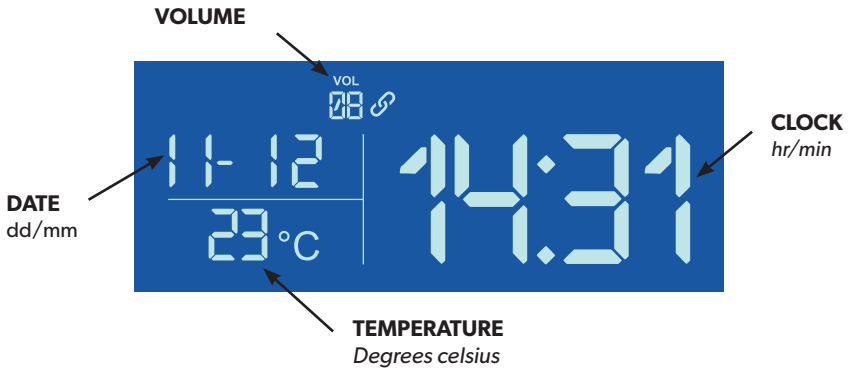

Fig 4. - Bluetooth® Module Interface
4. Once connected the 'chain-link' symbol will stop flashing to indicate that the device is now connected, *Fig. 4*.